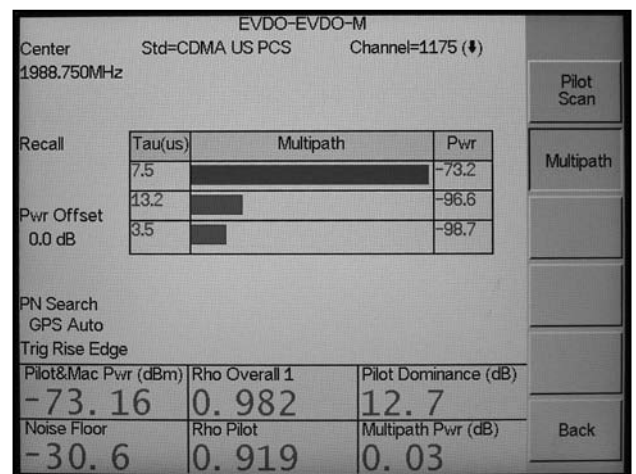

Figure 12. This graphic displays the Multipath readings.
14. Press **Multipath** soft key to display Multipath readings (Figure 12).